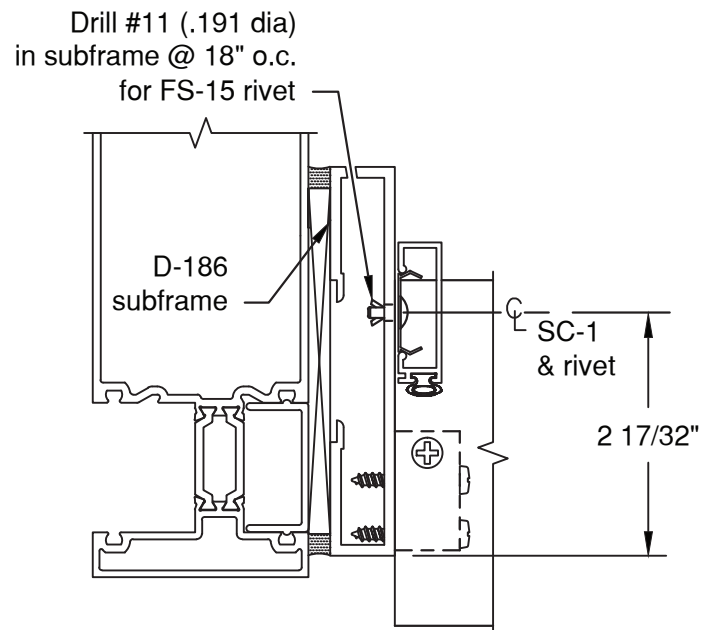

Figure 32
- C.2.5 Drill #11, .191 diameter holes in D-186 subframe for FS-15 rivets. Install door stops onto subframe with SC-1 clips at 18" O.C. Locate clips around the subframe anchor screws. **SEE FIGURE 32.** Vertical stops run through.